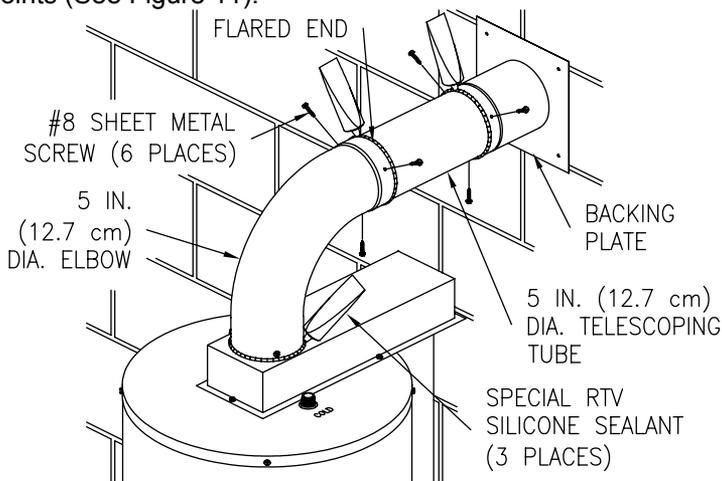

Figure 11
12. From inside the building, slide the backing plate over the five (5) inch (12.7 cm) diameter telescopic tube until it is flush with the wall. Adjust the length of the five (5) inch (12.7 cm) diameter telescopic tube and insert the end into the flared end of the five (5) inch (12.7 cm) diameter elbow one (1) inch (2.5 cm) (or until seated). Drill three (3) 1/8 inch (3.0 mm) diameter holes, 120° apart, through the five (5) inch (12.7 cm) diameter elbow into the five (5) inch (12.7 cm) diameter telescopic tube and through the tubes where the small and large sections overlap. Fasten with three (3) #8 sheet metal screws (supplied). Using the supplied special RTV silicone sealant, apply a sufficient amount to seal all joints (See Figure 11).